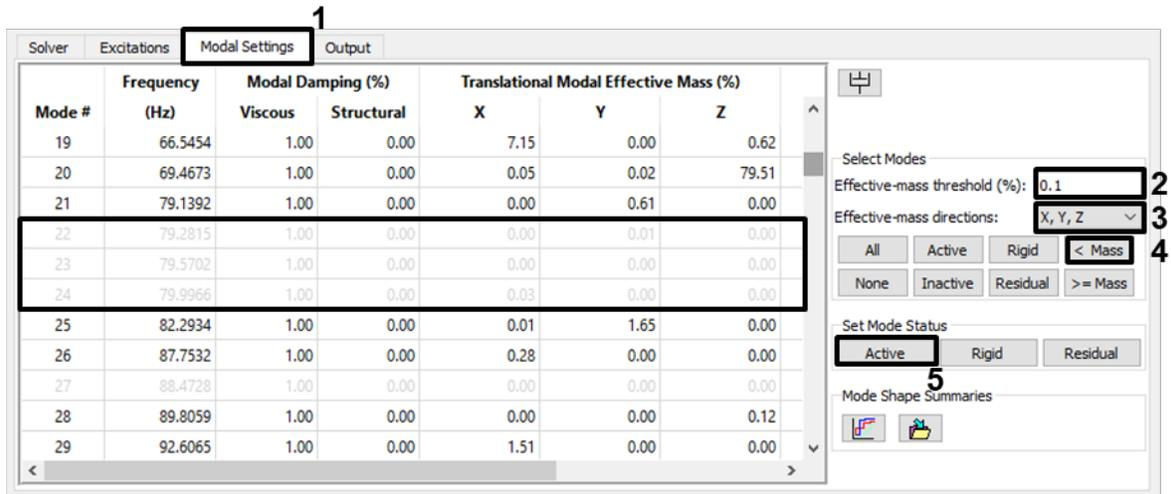

Figure 4-70. Select modes below 0.1% modal effective mass for all translations.
2. On the *Modal Settings* tab, in the *Select Modes* panel, set the *Effective Mass Threshold* to 0.1 and the *Effective Mass Directions* to X, Y, Z. Click the **< Mass** button to select the modes whose effective mass is less than that threshold for all the translations (Figure 4-70).